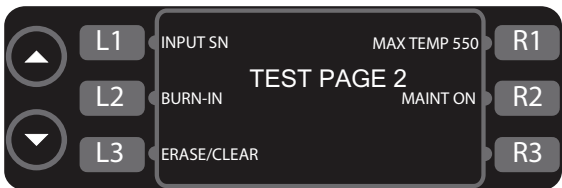

Figure 22: Test Mode Screen 2
1. Press L1 (Figure 22, page 17) on screen 2 of the TEST MODE to access the serial number input screen.
To initiate a burn-in test, Press L2 (Figure 22, page 17) on screen 2 of the TEST MODE.
To erase oven settings, press L3 (Figure 22, page 17) on screen 2 of the TEST MODE to access the erase screen (Figure 30). From the erase screen,
The serial number is located at the bottom of screen 2 of the TEST MODE (Figure 22, page 17).